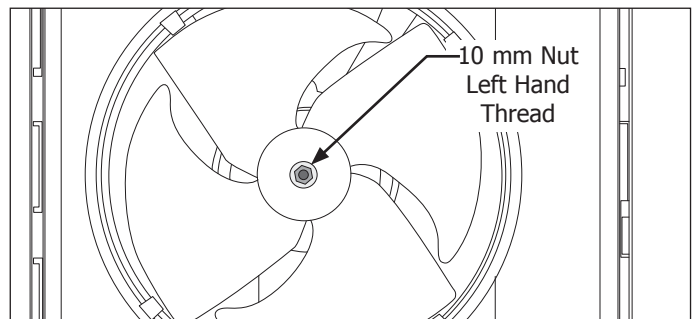

Figure 4-120.
10. Use a 10mm socket or wrench and remove the left hand nut and lock washer securing the fan blade to the fan motor shaft. Pull the fan blade from the motor shaft. (See Figure 4-120)